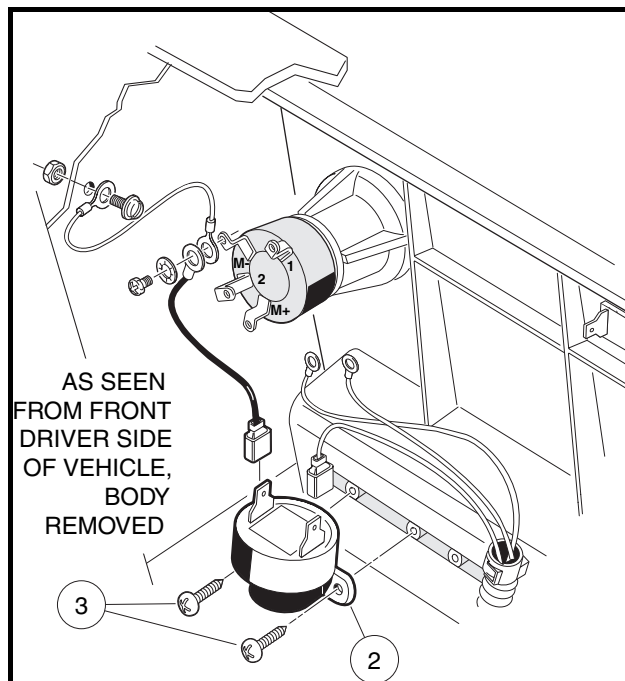

Figure 14-20 Front Reverse Warning Buzzer
3. Disconnect the wires from the reverse warning buzzer (2). Do not allow wires to touch (**Figure 14-20, Page 14-18**).
4. Remove the mounting screws (3) securing the buzzer to the center dash.
1. Install the screws (3) through the buzzer bracket tabs and tighten to 3.5 in-lb (0.40 N·m) (**Figure 14-20, Page 14-18**).